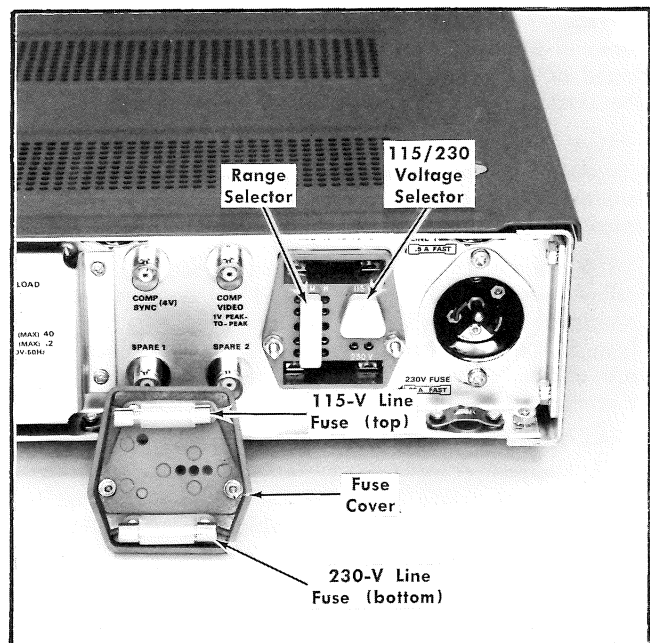

Fig. 2-1. Location of Range and Voltage Selector plugs with fuse cover removed. The plugs as shown are set for 115-V medium range operation.
3. To convert to a different line voltage (115 V to 230 V), pull out the 115/230 Voltage Selector plug (see Fig. 2-1). Rotate the plug 180° and insert it into the opposite set of holes. The 115/230 Voltage Selector plug is located in the upper position for 115-V operation and in the lower position for 230-V operation.
4. To change the line-voltage operating range (LO, M or HI), pull out the Range Selector plug (see Fig. 2-1) and